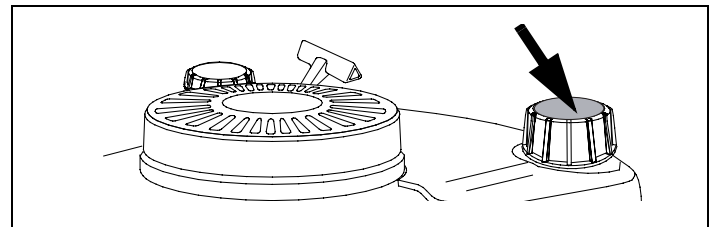

Figure 32. Fuel Fill Cap
2. Be sure fuel fill cap is on and tightened securely. See Figure 32.